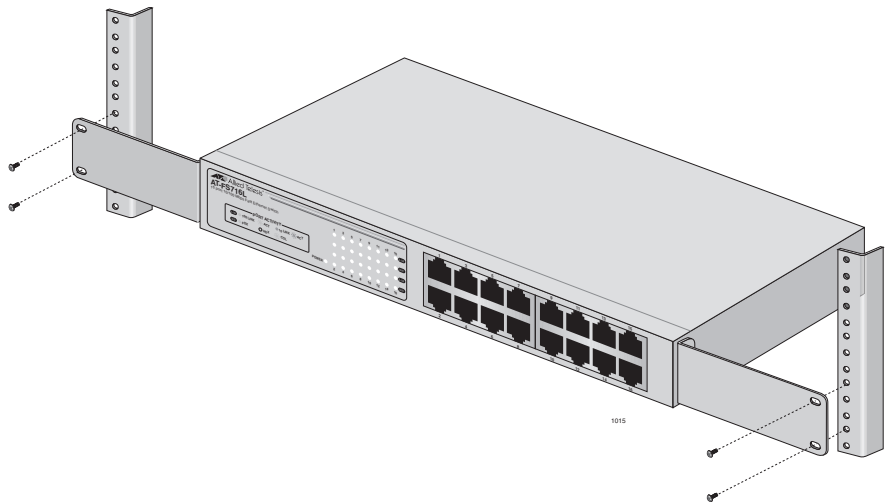

Figure 7. Rackmounting the Switch
3. Mount the switch in a 19-inch rack using rackmounting screws (not provided), as shown in Figure 7.